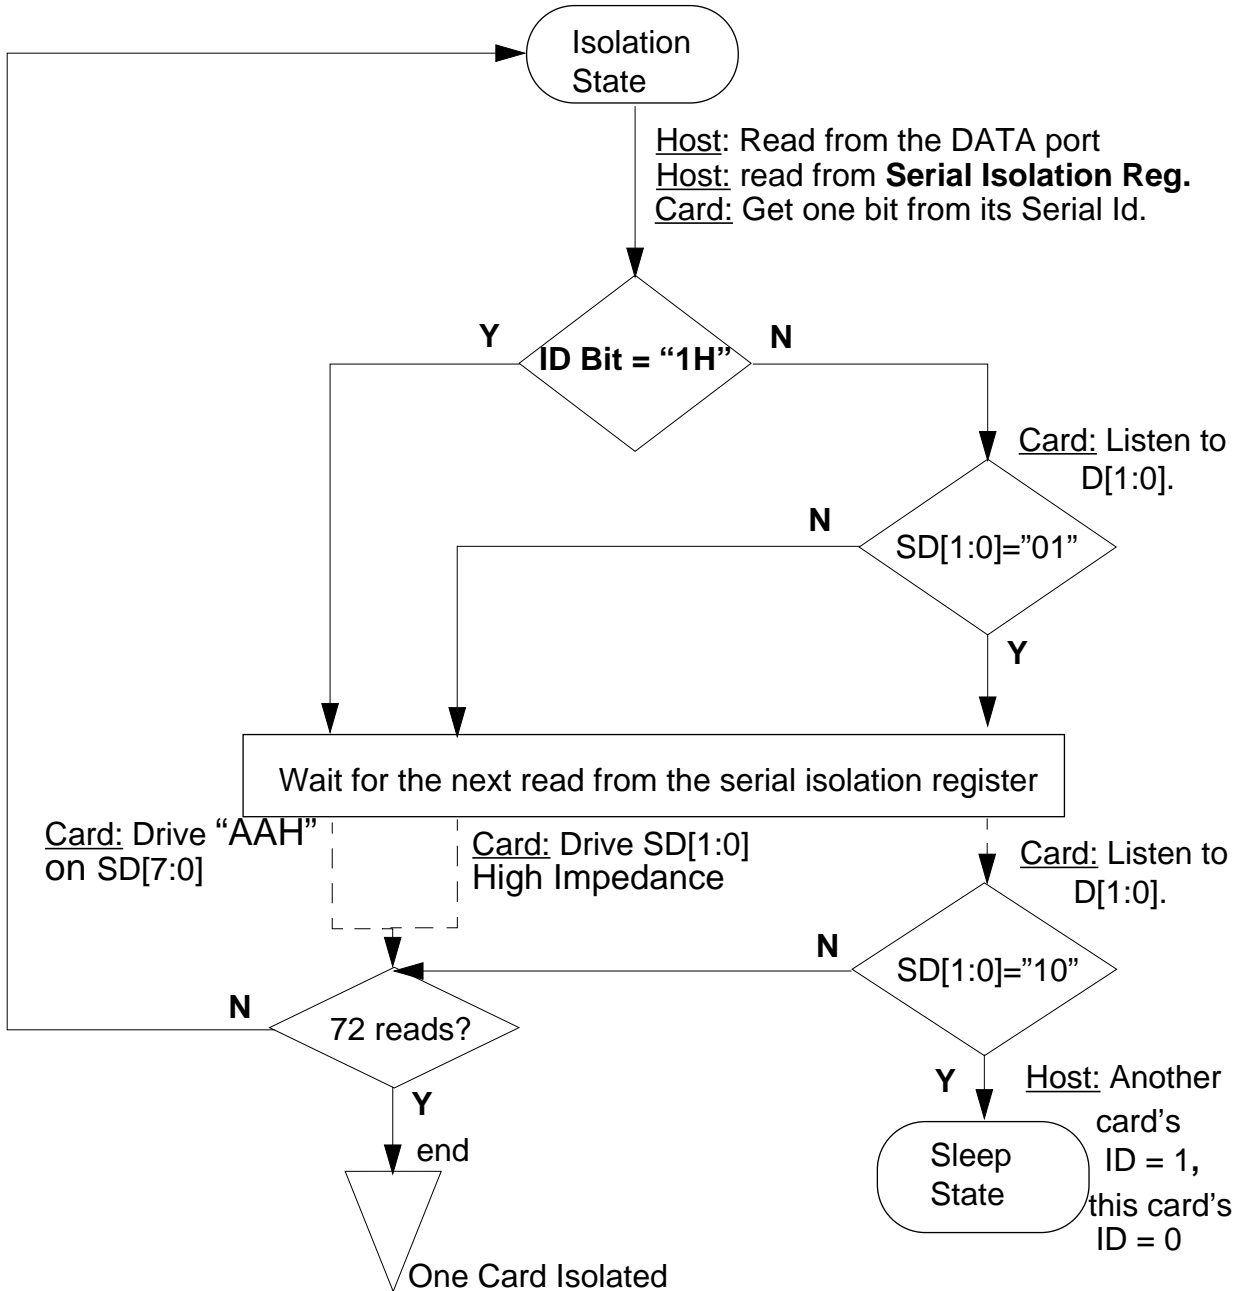

Figure 5-10. Isolation State Transitions
- Figure 5-10 summarizes the process.